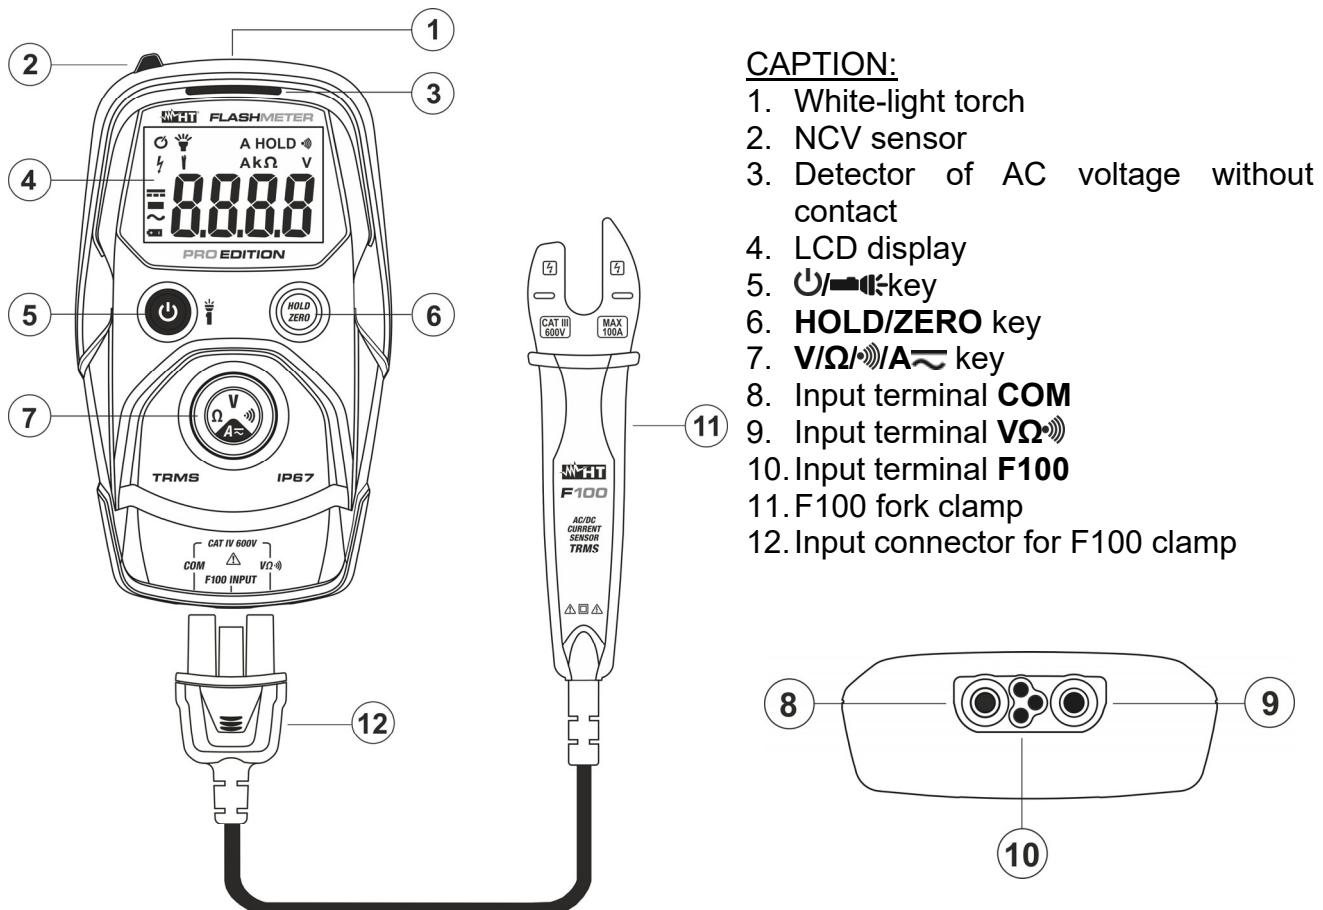

Fig. 1: Description of the instrument
Pressing the  key allows turning on the instrument. Press and hold the  key for approx. 1s to turn off the instrument. With instrument switched on, press the  key to activate/deactivate the integrated white light torch (see Fig. 1 - part 1). The symbol "💡" appears on the display.
The instrument allows detecting the presence of AC voltage without contact by using the NCV sensor found on the upper part (see Fig. 1 – part 2).
3. If the red detector turns on (see Fig. 1 – part 3), AC voltage is present.
- Insert the F100 clamp connector (see Fig. 1 - part 12) in the **COM**, **VΩ** and **F100** input terminals. The instrument automatically shows the selection of the AC current measurement (\sim) on the display